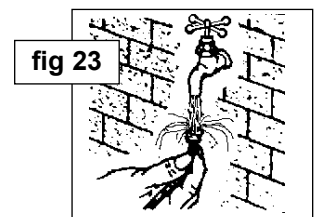

fig 23
- 6.8. Check the filter at the end of the detergent pick-up pipe to ensure it is not clogged. If it is, remove and rinse under running water (fig 23).
- 7.1.2. Regularly check and clean the filter connected to the end of the detergent pick-up pipe by running under a cold water tap (fig 23).